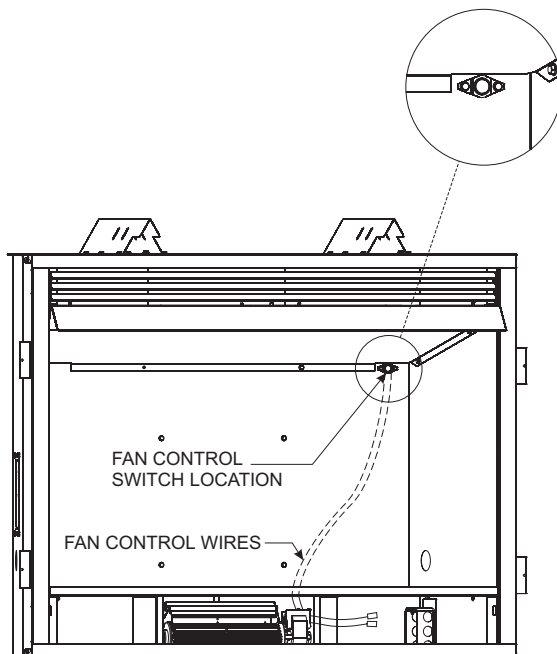

Figure 24
6. Next, find the fan control switch and wire assembly. Feed the wires through the hole at the top of the firebox, and secure the fan control switch with (2) #6 screws provided. **See Figure 24.**
outer wrap near the blower assembly. **See Figure 24.**